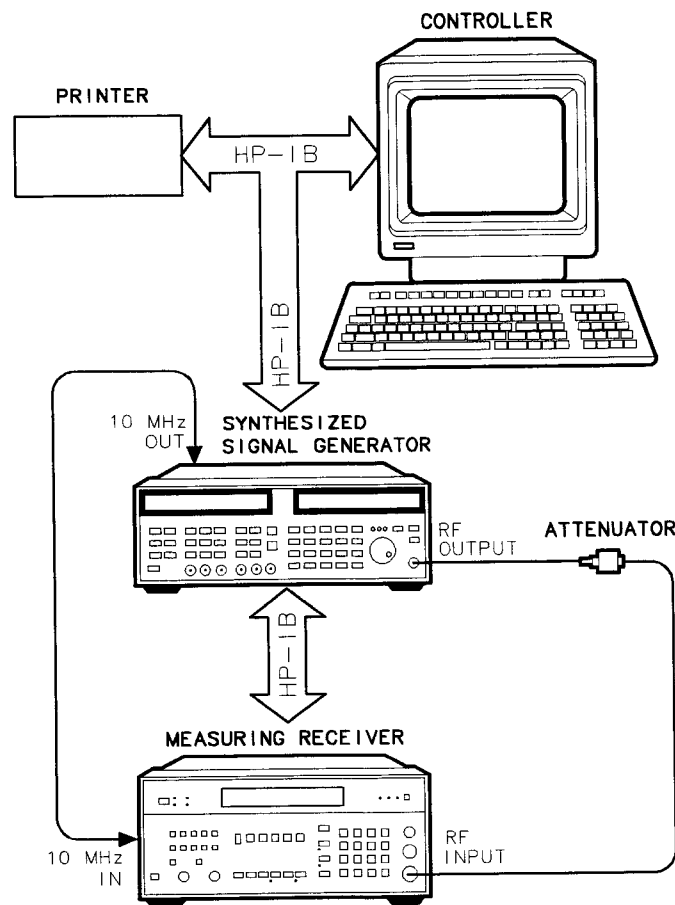

Figure 7-12. 0.01—1 GHz Attenuator Calibration Equipment Setup
1. Set up the equipment as shown in Figure 7-12.